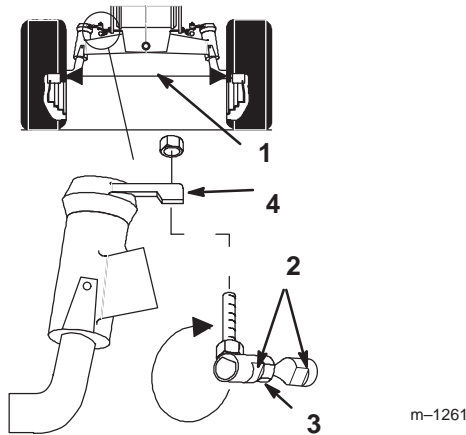

Figure 33
Maintain toe-in of the front wheels as specified. If uneven tire wear, lawn scuffing or hard steering develop adjustment may be required. Check the toe-in every year before storage (Fig. 33).
4. Measure, between the rims, at the spindle level, in the front and rear of the wheels (Fig. 33).
- Remove ball joint from one steering lever (Fig. 33).
- Hold flats on ball joint to align with flats on tie rod and tighten jam nut (Fig. 33).